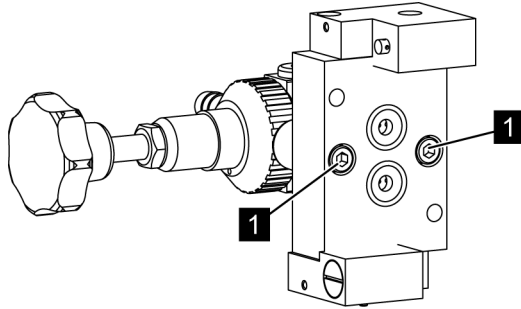

Fig. 15: Pressure controller
7. ➤ Unscrew the screws (Fig. 15/1).